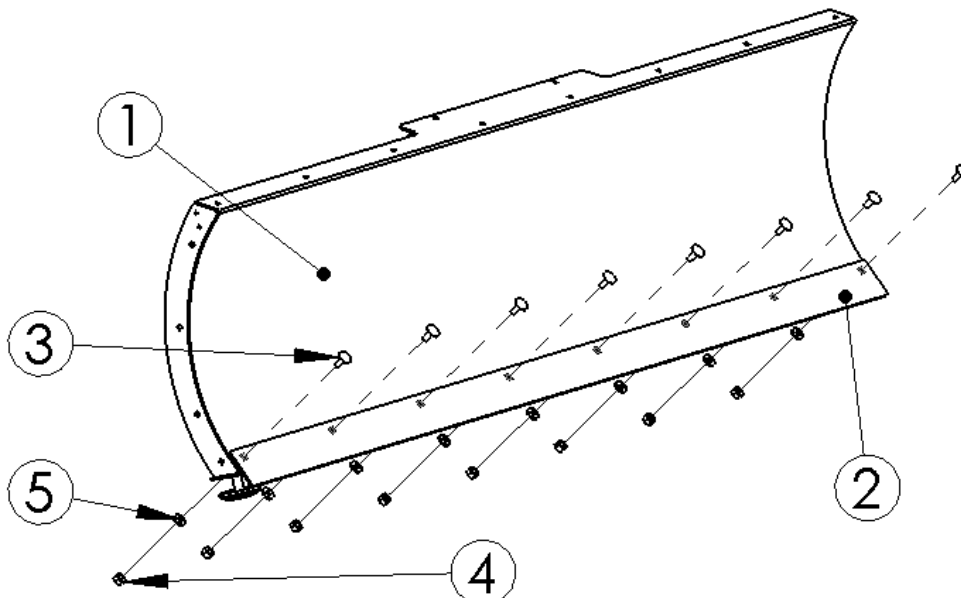

Figure 2
- a. (1) Blade (#1)
- b. (1) Wear Bar (#2)
- c. (1) Hardware bag (see above item list)
- 2) Install the Wear Bar (#2) to the bottom of the Blade (#1) using the 3/8" Carriage Bolts (#3), Nylock Nuts (#4), and Washers (#5) included in your kit. **(Figure 2)**. The rounded side of the Carriage Bolt should be on the concave side of the blade. The Carriage Bolts may need to be pushed in only part of the way until the Nylock Nut has been started as the bottom horizontal stabilizer bar is in close proximity. You also may need to use an open ended wrench to gain access for tightening. This step of the install takes the most time.